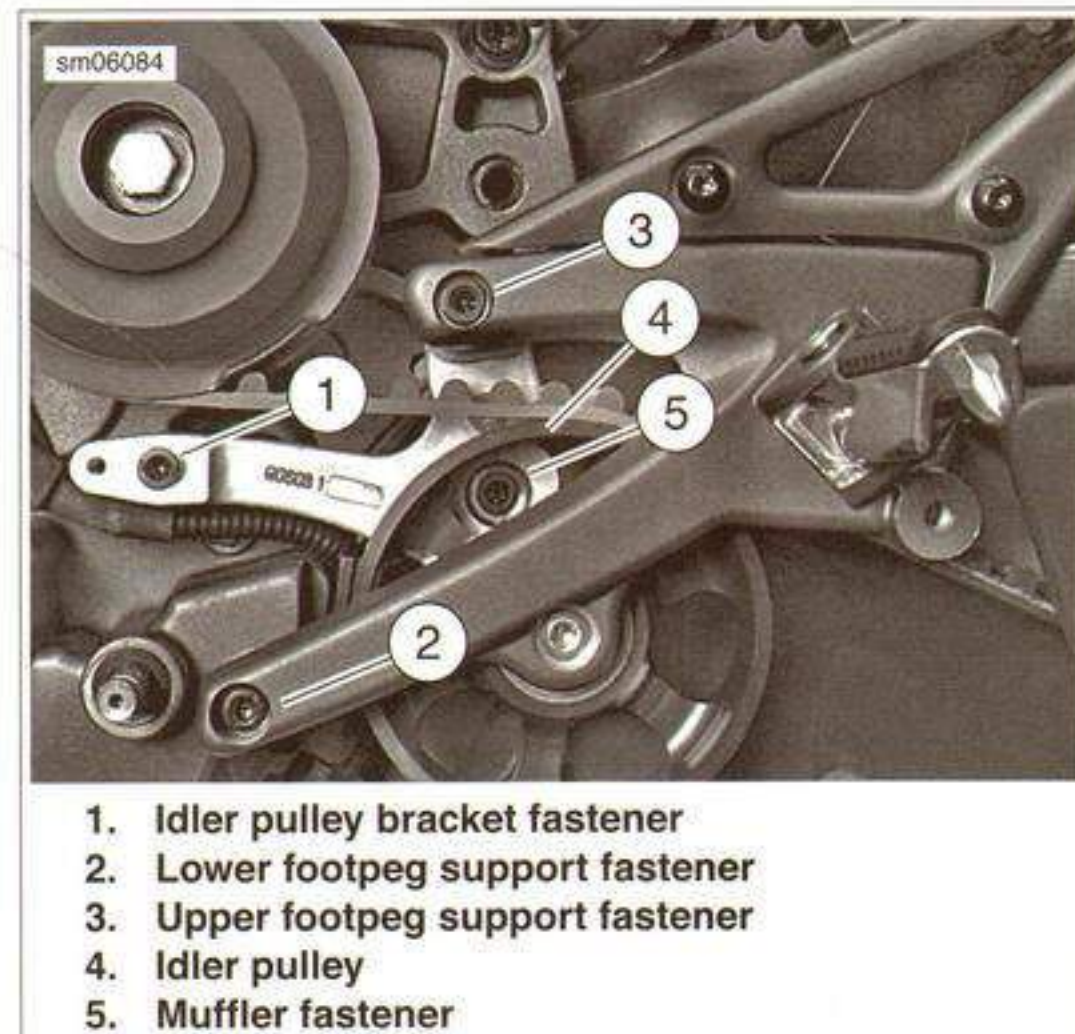

Figure 3-52. Rider Footpeg Support (Left)
6. See Figure 3-52. Install left footpeg support assembly. Do not tighten footpeg support fasteners, idler pulley bracket fasteners or rear muffler fastener. See 2.19 FOOTPEGS, HEEL GUARDS AND MOUNTS.
2. See Figure 3-52. Tighten fasteners (2, 3) to 24.5-27.0 Nm (18-20 ft-lbs).
3. Tighten idler pulley bracket fastener (1) to 24.5-27.0 Nm (18-20 ft-lbs).